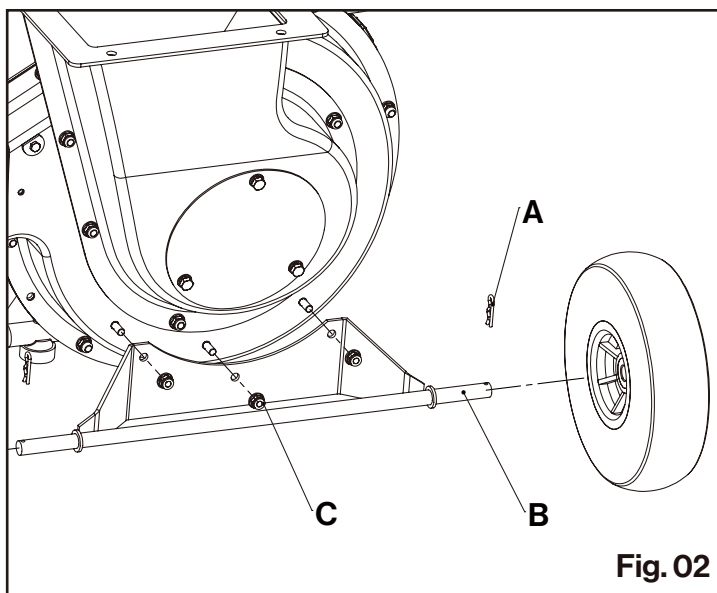

Fig. 02
1. Position the wheel rack over the three M8 thread studs protruding from the Rotor house. Attach the three M8 flange nuts (C) and tighten to secure the wheel rack.
3. Insert the spring pin (A) into the hole to secure the wheel on the axle. **(Fig.02)**